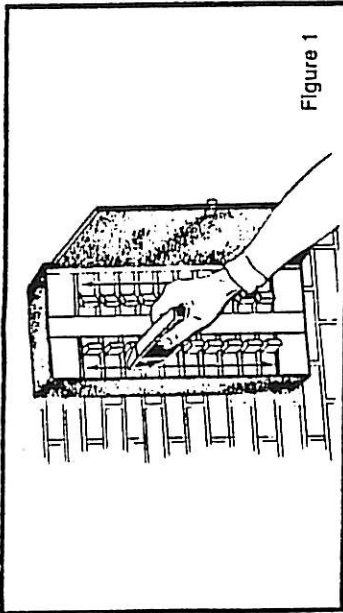

Figure 1
2. Position the receiver as shown in Figure 1 and pass the receiver's arrow over each circuit breaker or fuse. The receiver beeps and the indicator flashes six times per second when it is near the correct breaker.